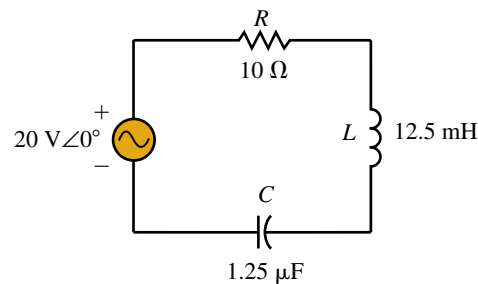

FIGURE 21-54
9. Refer to the series resonant circuit of Figure 21-54.